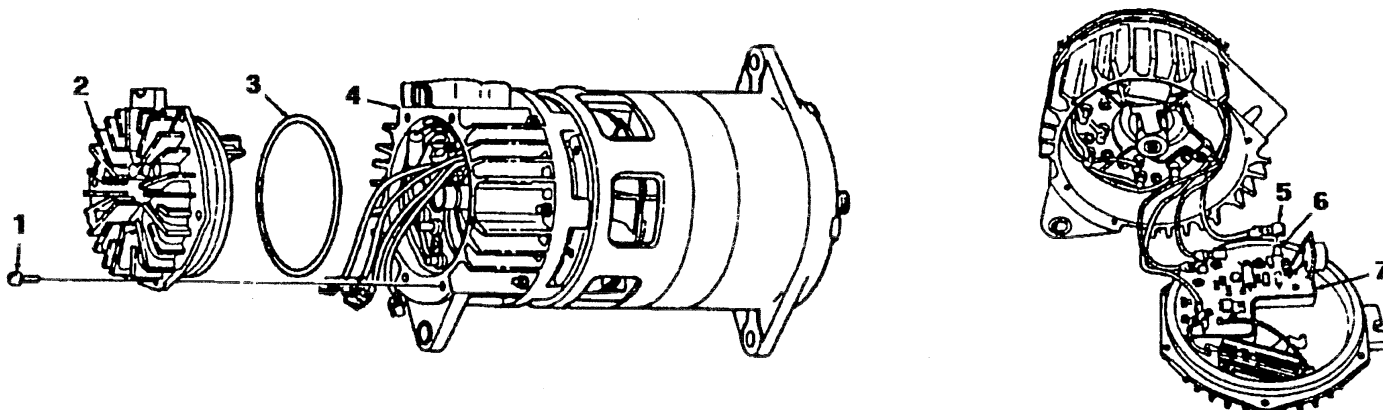

FIGURE 3-3
Discard "O" ring. (see figure 3-3)
1. Connect four leads (5) to terminals (6) on regulator (7). (see figure 3-3)
2. Install "O" ring (3) and end cover (2) on alternator end housing (4) with six screws (1).